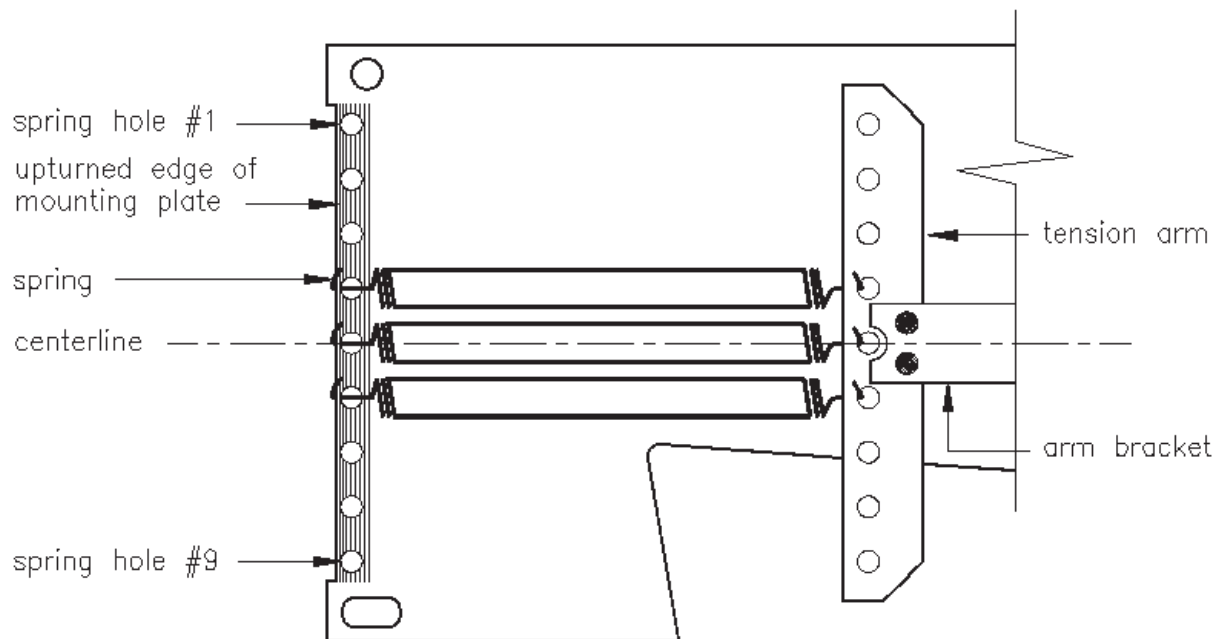

Figure 4. Installing the Springs. Viewed is the Right Lift Mechanism.
As **Figures 4** and **5** on the following pages show the Right Lift Mechanism, you should start with that one.
- If you are installing an *odd* number of springs start at the centerline position shown in **Figure 4**. Numbering down from the top, the centerline runs through spring hole #5. If you are installing an even number of springs start at hole #4 or #6, leaving hole #5 vacant. Note that the hook ends of the springs have slightly different sized openings. Hook the end of the spring that has the smallest opening under the upturned edge of the Mounting Plate. Lay the spring down and slide it under the matching hole in the Tension Arm. Be sure to install the springs so that the hook openings face you, see **Figure 4**.
*Ideally, you should install an equal number of springs on each side of the centerline. However, an imbalance by one spring is all right, preferably with the extra spring on the topside. The last spring installed should be #9, if required. See **Figure 4**.*